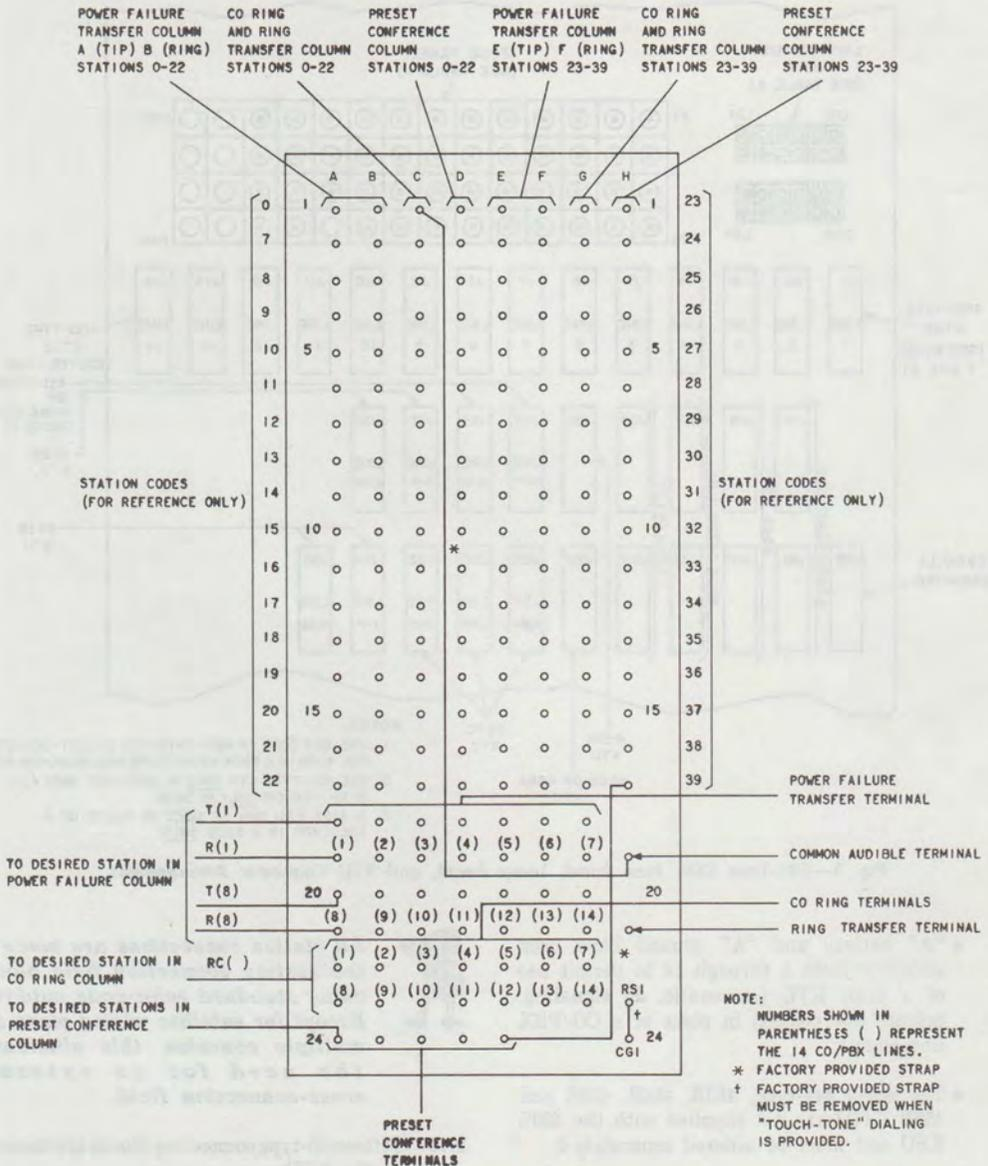

Fig. 4—Terminal Arrangement for Connecting Block 1
- (a) Connecting block 1 (Fig. 4) provides the terminals on which option straps are placed for connecting power failure ringing, CO ringing, preset conference, and ring transfer.